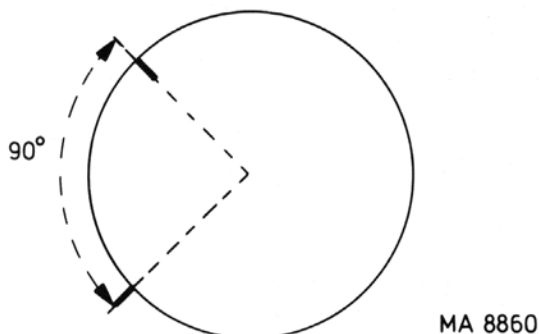

Fig. 5.5. Position of the INTENS potentiometer, when adjusting the intensity ratio.
- Set the INTENS potentiometer to a position 90° from the anti clockwise stop; see Fig. 5.5.